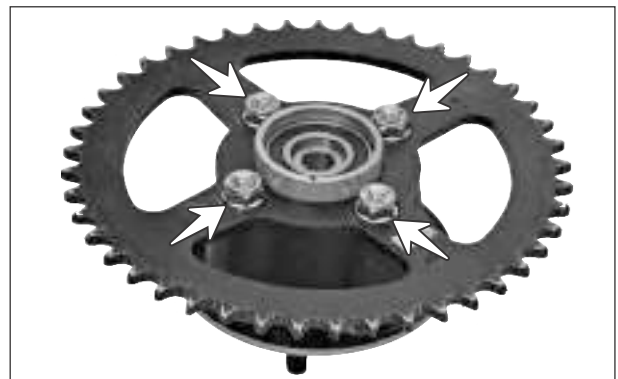

Fig. 6.90
- ↓ Remove the 'U' nut flanged (M10 - 4 nos.). (Fig. 6.90)